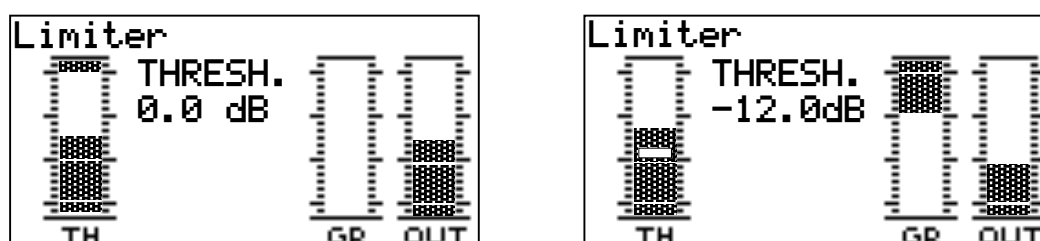

Fig. 13. Limiter display (left) and Limiter Threshold while editing (right)
- GR (Gain Reduction): This bar shows when the limiter is active (the threshold value is being exceeded by the input level). The gain reduction level will display as an inverted VU bar (see Fig. 13, right).